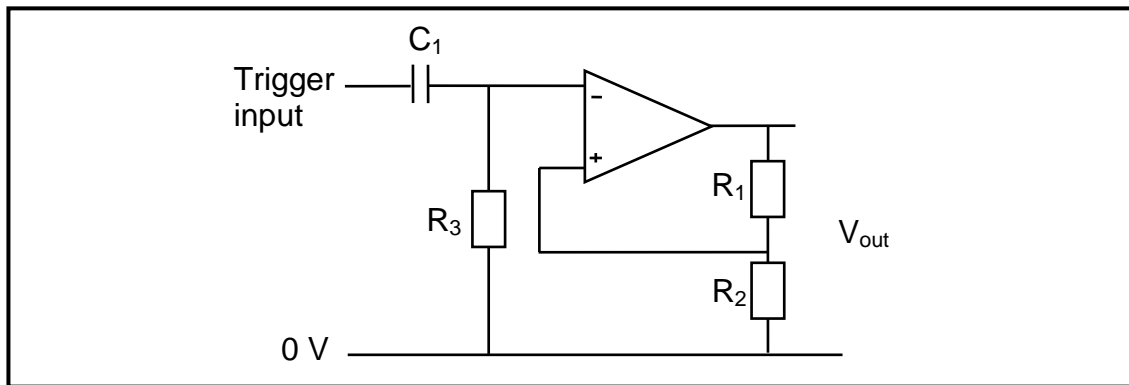

FIGURE 7.7: BI-STABLE MULTIVIBRATOR
7.10 Study FIGURE 7.7 and answer the questions that follow.